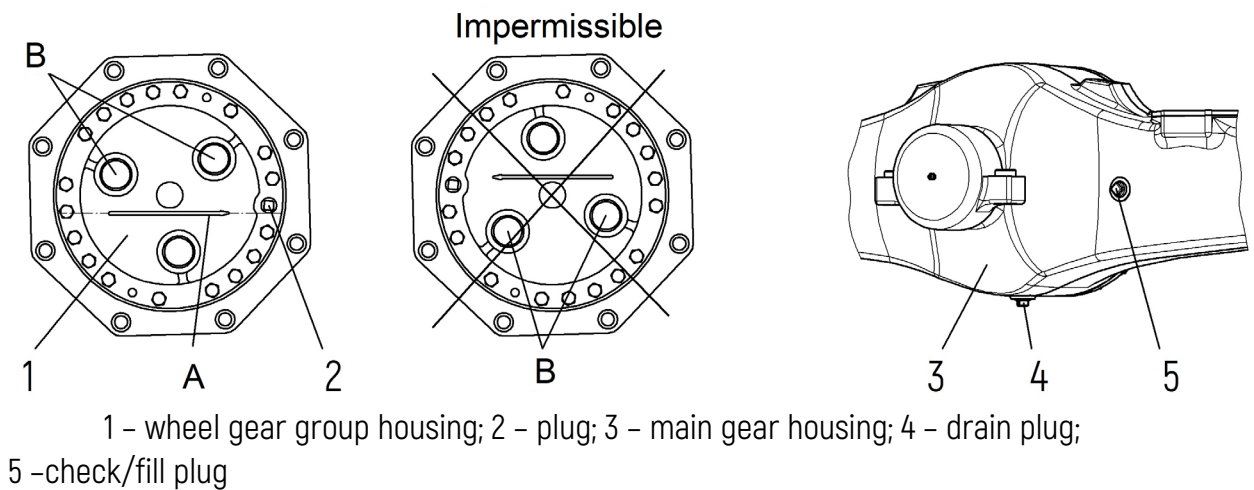

Figure 6.4.28 – Oil level check in the FDA gear housings
- place the tractor on a flat horizontal platform so that the arrow "A" (figure 6.4.28), casted on the FDA housing, has a horizontal position, and threaded rivet nuts B are located on the top;
- unscrew check/fill plug 5 (figure 6.4.28) and drain plug 4 of main gear housing 3, drain oil from the main gear housing;
- screw drain plug 4 in main gear housing 3 and through the hole of check/fill plug 5 pour fresh oil up to the lower edge of check/fill plug 5 (figure 6.4.28);
- screw plug 1 (figure 6.4.50 b) and plug 5 (figure 6.4.28).